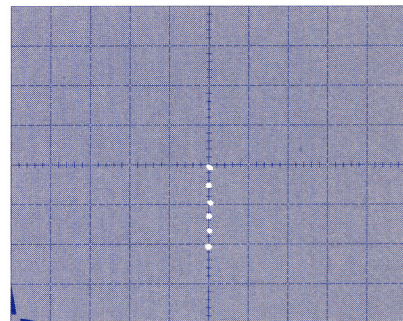

Figure 2-3. VERT UNITS/DIV was changed to 5 mV.
- 5) Adjust scale factors — Adjust VERT UNITS/DIV for greater dot separation, but do not allow sixth dot to move off screen at bottom. If necessary, re-adjust OUTPUT VOLTAGE COMPARISON control to keep top dot at center of graticule. (See Figure 2-3.) Advance SWEEP AMPLITUDE to provide specified input voltage sweep (shown on the horizontal) required. [1.4 to 5 divs, or 7 to 25 V]. Bottom trace (see Figure 2-4) approximately represents load [500 mA] for this test. **50 63 43**